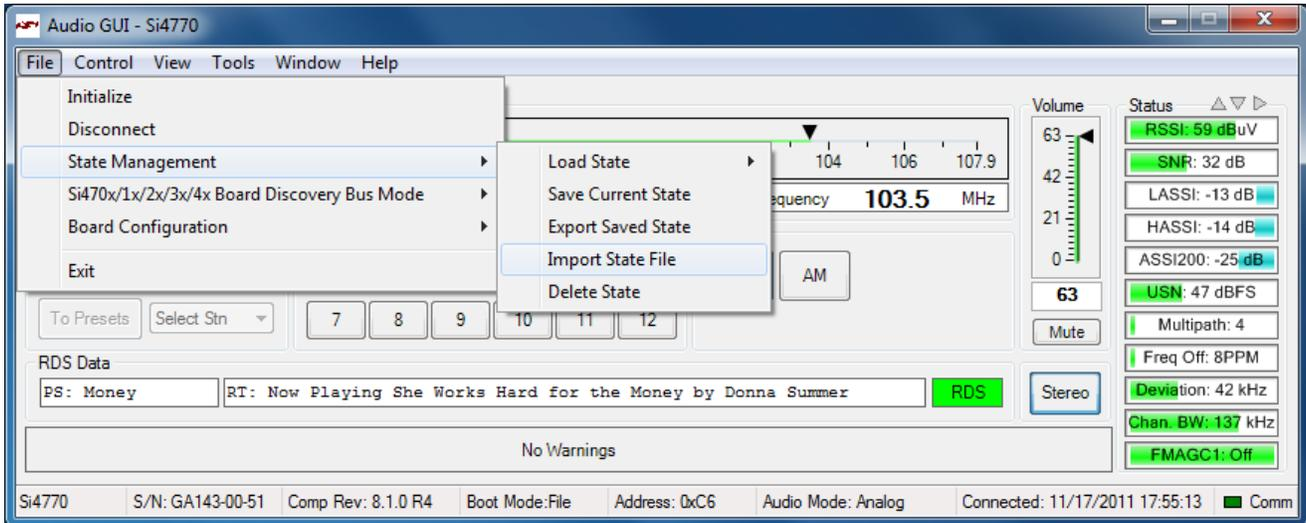

Figure 19. Import Configuration State
1. Go to File→ State Management→ Import State File to export the saved state into a file as shown in Figure 19.